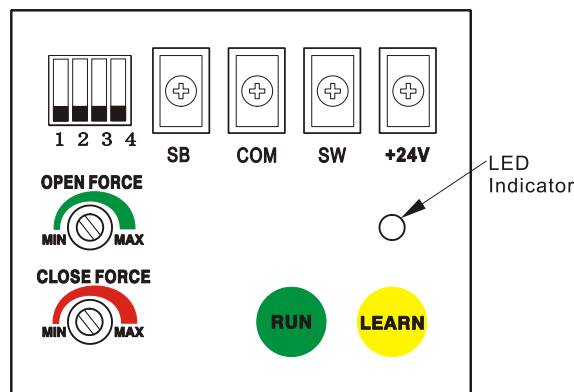

Fig 11
- Press the Green Coloured “Run” Button located on the Rear Cover of the AGDO. (Fig.11)
- c. **LED Indicator (Fig 11) will glow solid once the AGDO reaches the Close Limit position.**
- c. LED Indicator (Fig 11) will slow flash once the AGDO reaches the Open Limit position.
- Locate the Learn button (Fig 11) found on the rear cover of the AGDO.
- With the garage door in the **fully closed** position - press the green Run button (Fig.11) so that the garage door begins to open.
- As the garage door is opening - slowly turn the Open Force (green) adjustment pin (Fig.11) in an anti-clockwise direction until the garage door stops.
- Press the green “Run” button (Fig.11) so that the garage door begins to open.
- With the garage door in the **fully open** position, press the Run button (Fig.11) so that the garage door begins to close.
- As the garage door is closing - slowly turn the Close Force (red) adjustment pin (Fig.11) in an anti-clockwise direction until the garage door stops and begins to reverse direction.
- If the AGDO stops but does not reverse then turn the Close Force adjustment pin 5 degrees in an anti-clockwise direction. (Fig 11)
- ii. momentarily press “Learn” button (Fig.11) – LED Indicator will glow solid
- Select Dips 1 & 2 to the “ON” position. (Fig.11)
- The Dip Switches located within the back cover of the AGDO (Fig.11) enable or disable specific functionality.
- The Learn button (Fig 11) is located on the rear cover of the AGDO and serves to initiate the functions as described in the following table;
- The LED Indicator (Fig 11) is located on the rear cover of the AGDO and serves to provide visual indication of functionality sequences as described in the following table;
- 4 Output Terminals (Fig.11) are provided within the back cover of the AGDO to support the connection of the following accessories;